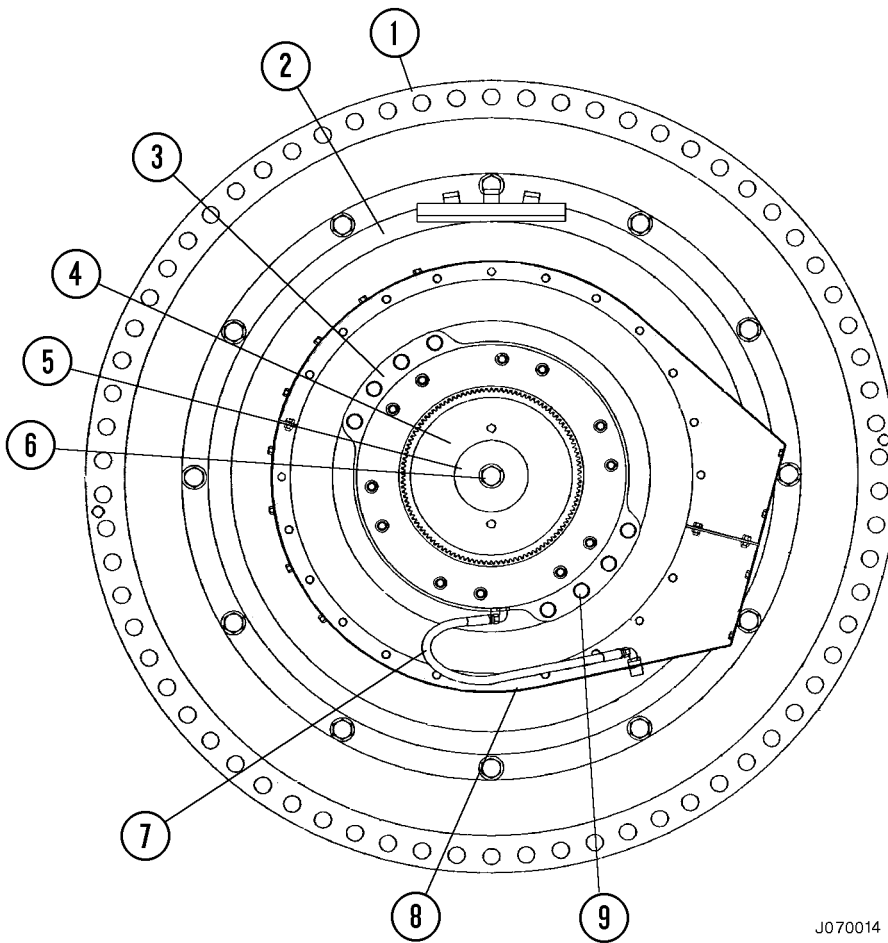

FIGURE 7-1. PARKING BRAKE INSTALLATION
When the directional control lever is in PARK, the parking brake solenoid valve (SV2) located on the brake manifold in the hydraulic brake cabinet is de-energized, which removes hydraulic pressure from the parking brake assemblies. Internal belleville springs in the parking brake assemblies act on the piston to compress the disc pack, preventing rotation of gear (4, Figure 7-1), which is mounted on the wheel motor rotor shaft.
4. Disconnect parking brake apply supply hose (7, Figure 7-1) from the parking brake.
5. Remove capscrews and lockwashers (9). Install guide studs in two of the mounting holes to support the parking brake assembly when it is removed from the wheel motor frame.
6. Slide the parking brake assembly out of the wheel motor frame and off inner gear (4). Remove the parking brake assembly from the rear axle housing.
7. If rotor shaft gear (4, Figure 7-1) is worn, damaged or otherwise requires removal, perform the following steps:
- a. Remove capscrew and hardened washer (6, Figure 7-1) from the shaft. Remove retainer plate (5).
- b. Install a gear puller using the tapped holes provided in gear (4).
- a. Thoroughly clean gear (4, Figure 7-1) and the shaft. Inspect the splines and remove any burrs that may interfere with installation.
- c. Install retainer plate (5), washer and capscrew (6). Tighten the capscrew to **595 - 670 N·m (440 - 495 ft lb)**.
5. Install capscrews and lockwashers (9) Tighten the capscrews evenly to ensure that the parking brake housing is properly seated on the wheel motor. Tighten the capscrews to a final torque of **300 N·m (220 ft lb)**.
6. Connect parking brake supply hose (7) and remove any lifting equipment.